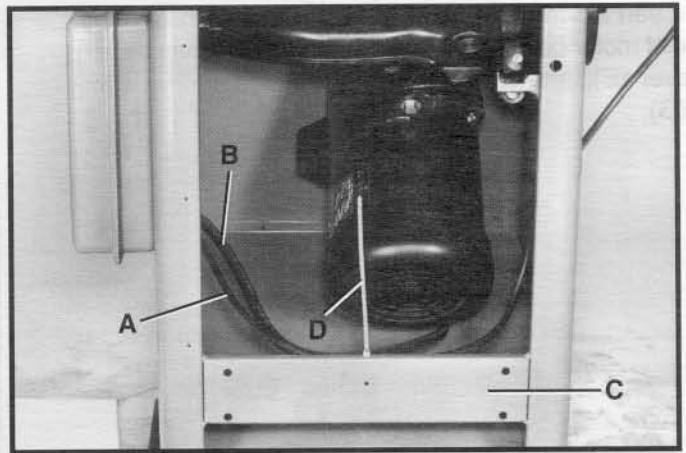

Fig. 30
3. Fasten motor cord (A) Fig. 30 and switch cord (B) to the saw frame cross member (C), using the cable tie (D) supplied with the saw. **CAUTION: Before tightening the cable tie, make certain that both cords (A) and (B) are free of any interference from the motor or saw blade at all possible positions of the motor.**
4. After the cable tie is tightened, cut off excess tail of cable tie (D) Fig. 30.